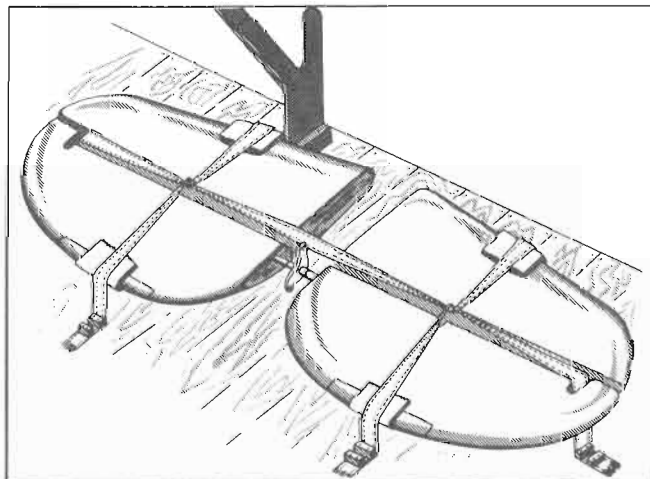

Figure 14 — Horizontal Tail Assembly Attached to Platform
- (g) Secure the horizontal tail assembly to the cradles under the fuselage by means of webbing straps. Nail ends of straps to platform using necessary wooden blocks. (See figure 14.)